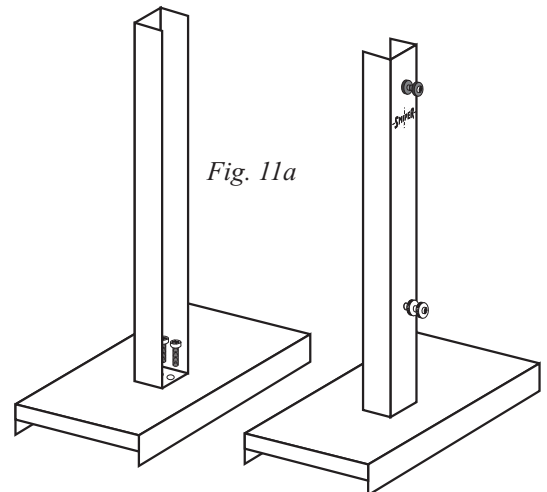

Fig. 11a
2. Attach one short mast on each base using two phillips head bolts (fig. 11a)